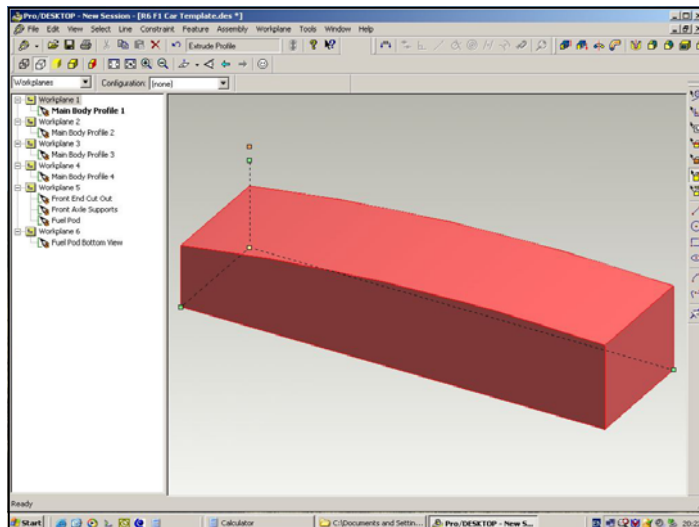

Figure 4 - Right Fuel Pod Extruded
- 6) Your screen should now look like the model in Figure 4.